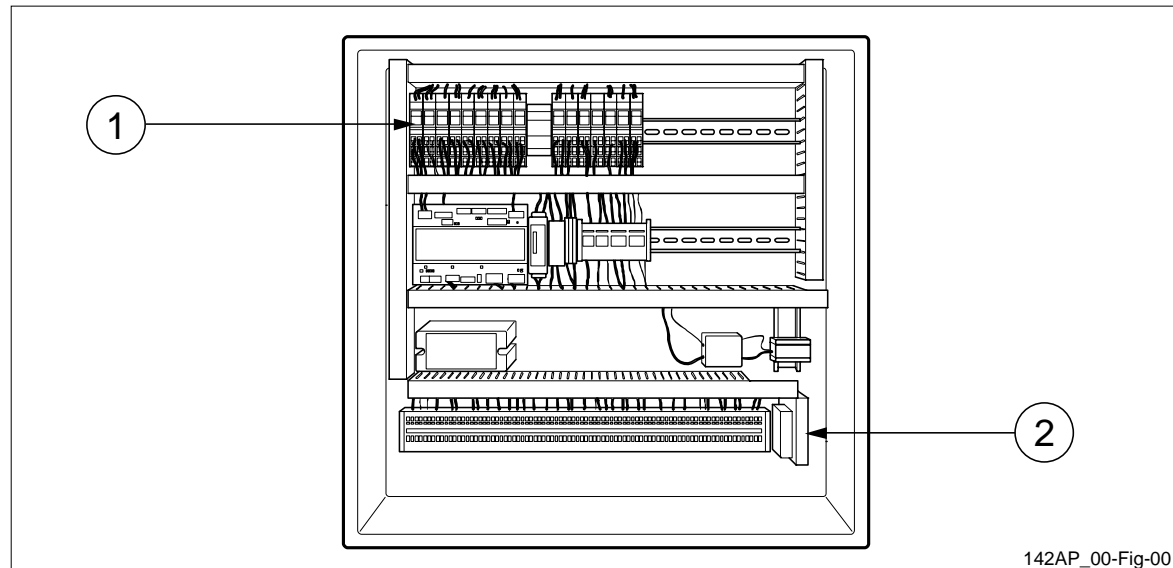

Figure 10 2-pole relays in an HPP unit cabinet.
1. Open the cabinet and make sure the incoming power is interrupted, for example, by setting the automatic fuses (see position 2 in figure 10) to position OFF.